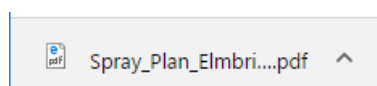
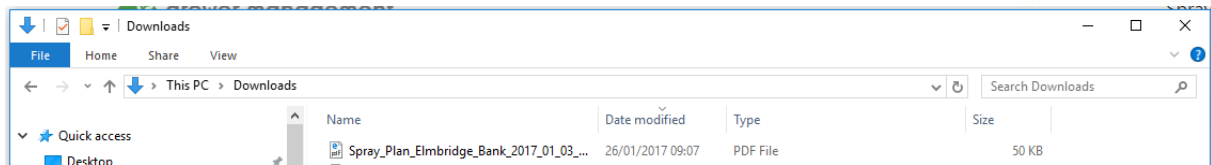

Figure 1
Figure 2
- **Download** - This will generate a PDF, which you can open from the bottom of the web browser (figure 1) or in the downloads folder of your computer (figure 2).